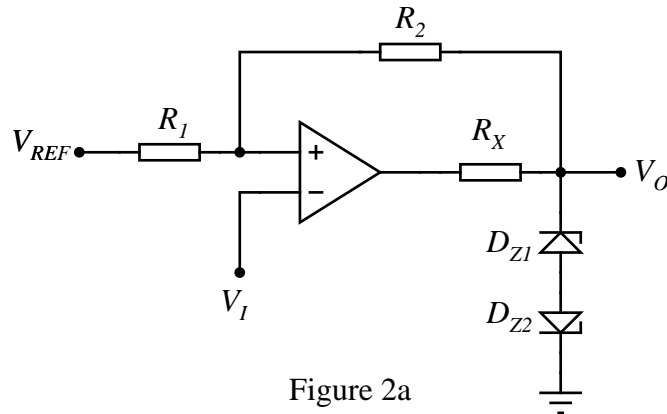

Figure 2a
- What range of output voltage,  $V_o$ , is available by adjusting  $R_v$ ? (4)
- What is the maximum value of  $R$  that will ensure correct operation of the circuit over the full range of output voltage, load current and supply voltage conditions? (3)
- What power is dissipated by  $R$  under the worst case normal operating condition and with a prolonged short circuit across the output? (4)
- What maximum power must  $T_I$  be capable of dissipating? (4)
- What is the efficiency of the shunt regulator if the input voltage is set to 20V, output voltage is set to 10V and applied to a 500 $\Omega$  load resistor? You may neglect the power dissipated in the voltage divider network,  $T_I$ ,  $I$ ,  $V_{REF}$  and the operational amplifier. (5)
2. a. Explain why hysteresis is usually necessary in comparator circuits. Provide an example where hysteresis might be used. (2)
- b. Sketch the transfer characteristic,  $V_O$  against  $V_I$ , of the Schmitt trigger circuit shown in Figure 2a, highlighting the area of hysteresis.
The circuit presented in Figure 2a is now modified to form a triangle/square waveform oscillator as shown in Figure 2b.
- e. What is the purpose of  $R_X$  in figure 2a? (2)
3. a. Sketch a diagram of the  $V_{DS}$ - $I_D$  output characteristic for a typical N channel MOSFET showing the influence of  $V_{GS}$  on the characteristic. On your diagram label the idealised and the practical 'on' and 'off' state operating points and illustrate the linear and saturation operating regions. (5)